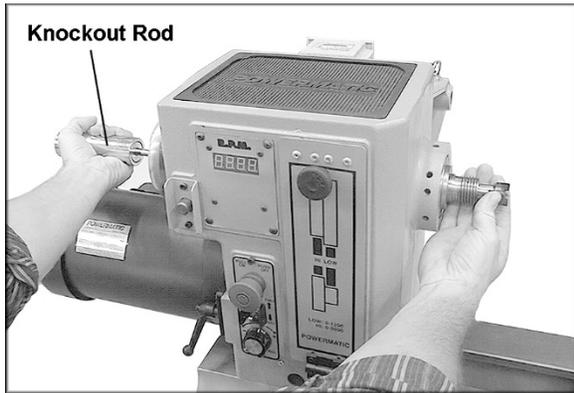

Figure 19
3. To remove a spur center or live center, first remove the workpiece from the lathe. Insert the knockout rod (Figure 19) through the hole in the handwheel and firmly tap the tapered end of the spur center. The sliding collar on the knockout rod helps give the necessary impact without having to use a mallet against the end of the rod.